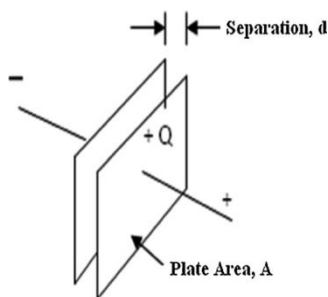

Fig. 1. Schematic sketch of a parallel-plate capacitor.
In Eq. (1), capacitance C is in Farad, charge Q is in Coulomb and the voltage V is in Volt. In vacuum, the capacitance of such a capacitor is proportional to the area (A) of the conductors divided by the thickness (d) of the dielectric separating them as shown in Fig. 1,